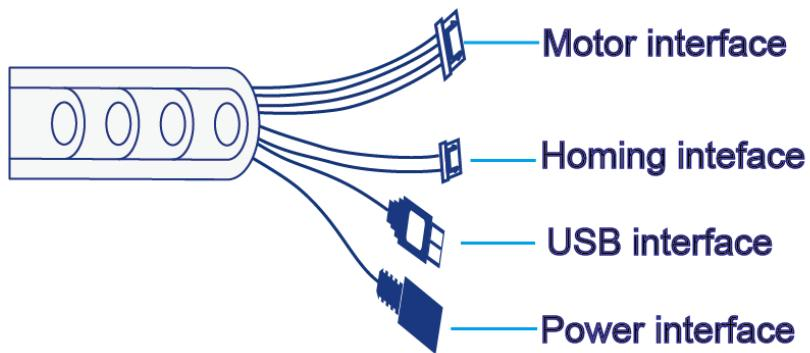

Figure 5.195 Interfaces on the other end of the wire set
**Step 6** Connect the interfaces on the other end of the wire set to the power adaptor, USB interface of PC, motor interface and homing interface of the sliding rail respectively. Figure 5.195 shows the interfaces on the other end of the wire set.